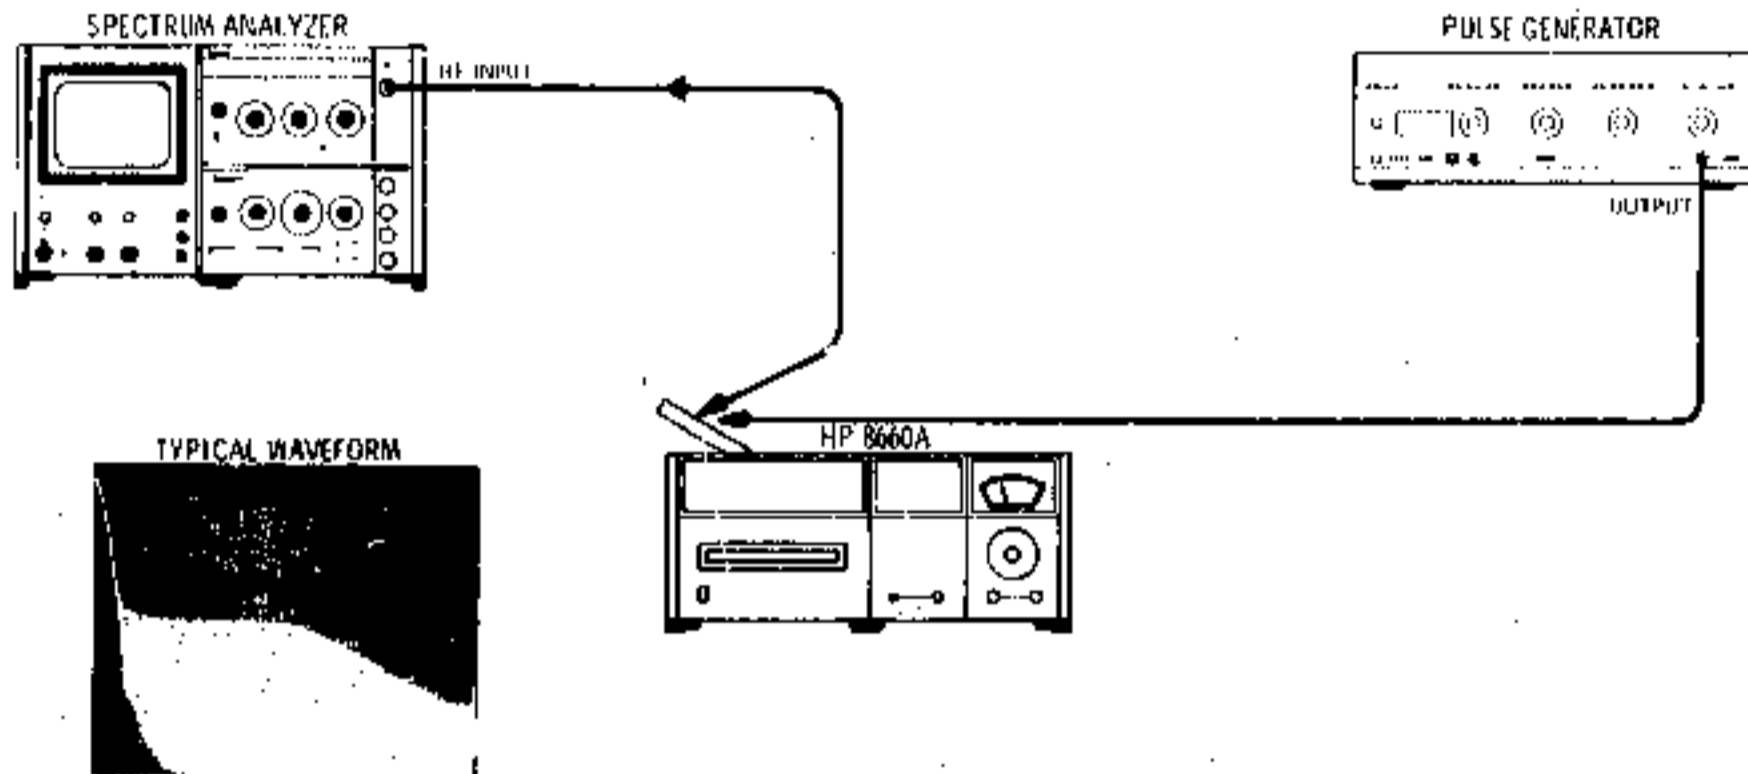

Figure 5-10. Phase Detector Response Adjustment Test Setup
1. Phase Detector Response Adjustments. (See Figure 5-10.)
- c. Adjust EFFiciency control A4A7R18 for a flat response to approximately 5 MHz with very slight peaking ($1 \text{ dB} \pm 1 \text{ dB}$). See the waveform in Figure 5-10 for typical response.